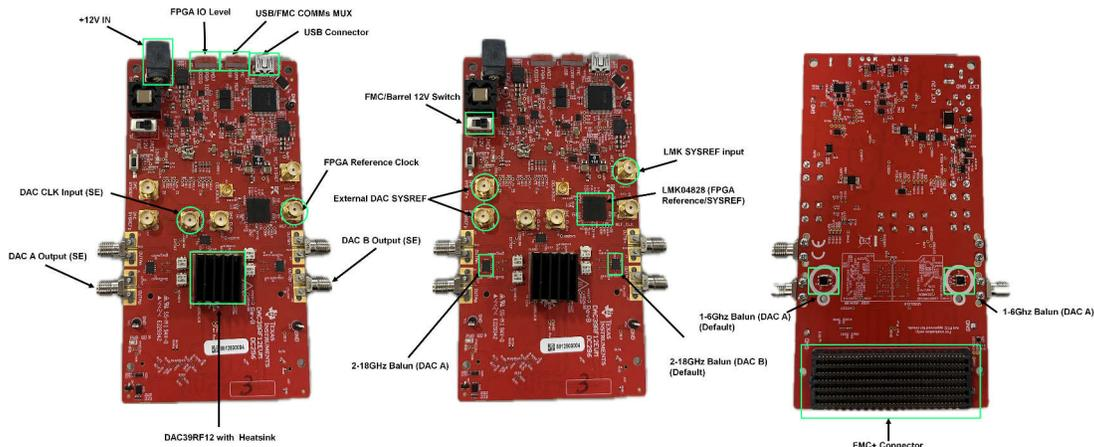

Figure 1-1. DAC39RF12EVM Key Components
1. The FPGA REF clock frequency can be obtained from the DAC39RF12EVM GUI once the DAC39RF12EVM GUI is configured to the desired JMODE mode and clock rate. The Reference Clock frequency required by the EVM is displayed on first page of the GUI shown in Figure 1-1.